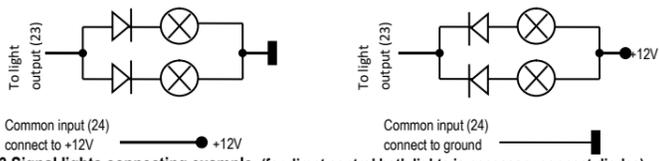

Fig.3 Signal lights connecting example (for direct control both lights is necessary connect diodes)
**Brown (NO)** - output to signal lights - This output is relay type (Fig.3), so it can be used as negative as well as positive.